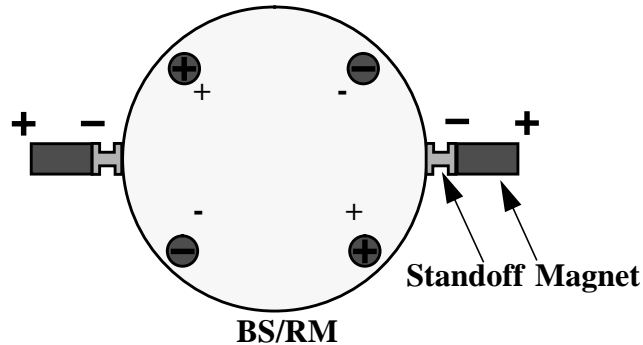

Fig. 1. Configuration of the magnet/standoff Assembly.
8. Apply epoxy: Dip conductor wire in epoxy and withdraw it, leaving a tiny amount of epoxy on the wire. Apply epoxy on the wire to the end of a standoff. Optimum adhesive thickness is .003" [.08mm] or a volume of  $3.9 \times 10^{-6} \text{ in}^3$  [.06mm3]. Epoxy should only cover a diameter of about .02" [.5mm] with a height of .01" [.3mm]. Insert standoff carefully into fixture, making sure not to get adhesive on fixture. Repeat this for three more magnet/standoff assemblies. Make sure that the magnet's poles are in opposite configuration to the magnet next to it in the circle. For example, see Figure 1 below. Lightly tap the top of the magnets. The magnets are placed so that polarities of the magnets alternate; this is to prevent the mass from being shaken in position and orientation, by time-varying ambient magnetic fields.
4. Check polarity of magnets: Check that the magnet/standoff assemblies that will be used with this fixture are of the same pole configuration (i.e. the positive pole is glued to the standoff) as shown in Figure 1.